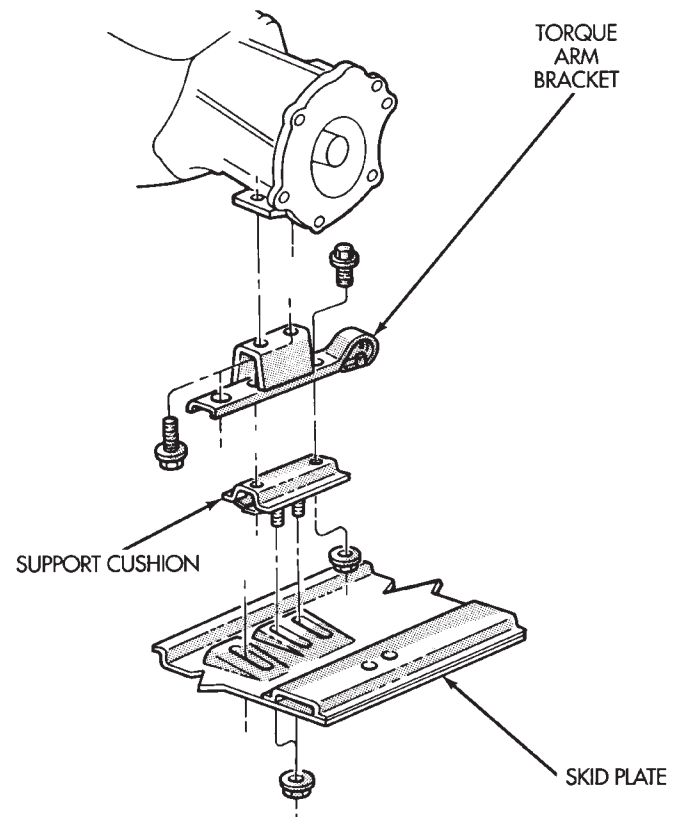

Fig. 13 Rear Mount—YJ Vehicles (Automatic Transmission)
- (6) **AUTOMATIC TRANSMISSION:**
- (a) Remove the bolts and nuts holding the support cushion to the torque arm bracket (Fig 13). Remove the support cushion.
- (b) Remove the bolts holding the torque arm bracket to the transmission (Fig. 13). Remove the torque arm bracket.